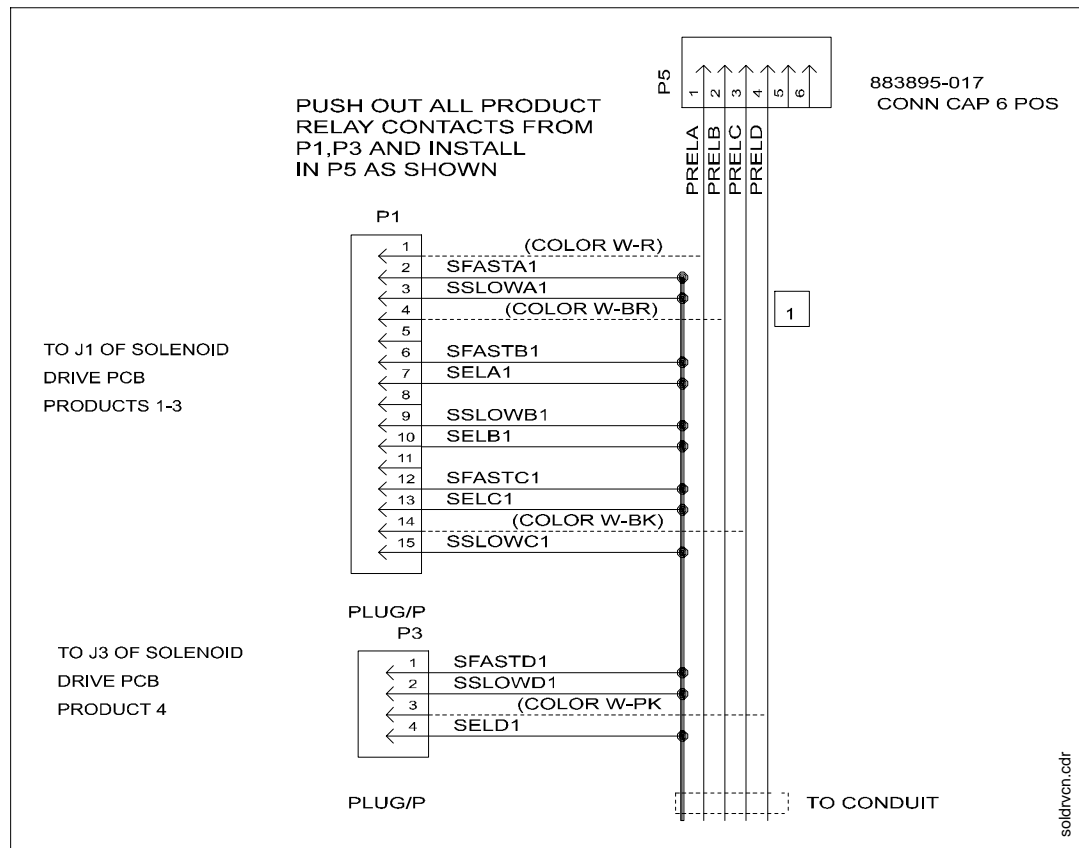

Figure 2-13 Modifying Product Relay Contacts
7. If needed, connect 6-pin end of cable PN 886016-001 to 6-pin connector with subpump controller wiring (see Figure 2-13). Otherwise, leave unconnected at this time.
3. With a pin pusher, push out all product relay contacts from the connectors removed in steps 1 and 2, and install in connector P5 (PN 883895-017) provided in the kit. Refer to Figure 2-13.